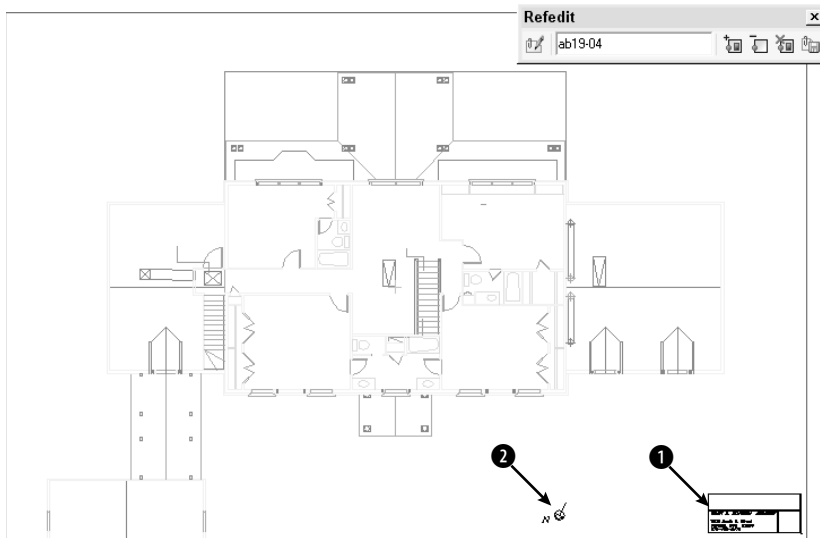

**Figure 19-7:** The title block is an xref in the drawing of the floor plan.
4. Double-click the title block. The Reference Edit dialog box opens. Choose `ab19-04.dwg`. It is displayed in the preview box. Click OK. The Refedit toolbar opens, and you can now edit the xref. Your screen should look like Figure 19-7.
6. Choose Draw ⇨ Text ⇨ Single Line Text. At the Specify start point of text or [Justify/Style]: prompt, pick ❶ in Figure 19-7. At the Specify height <0'-0 3/16">: prompt, type **10** ↵. Press Enter again for the rotation angle.
9.  Select the letter N and arrow symbol at ❷ in Figure 19-7. To transfer these objects from the xref to the floor plan drawing, choose Remove from Working Set from the Refedit toolbar.